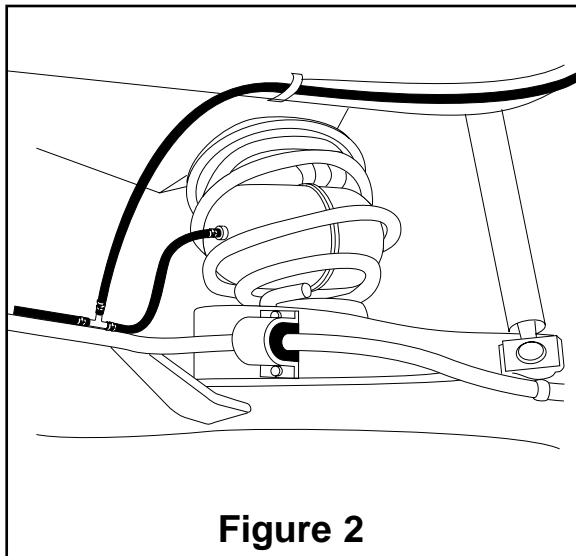

Figure 2
4. Insert flattened air cylinder into coil spring between second and third coil with valve stem to the side (Figure 2).
6. When cylinder is completely within the coil, locate stem toward center of vehicle spaced equally between the second and third coil. Remove the cap and allow the cylinder to assume it's "as molded" shape (Figure 2).